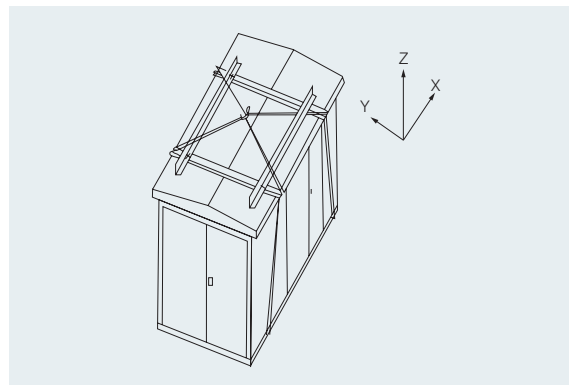

FIG. 3 Product lifting diagram
- The product should be lifted at the bottom of the special spreader, as shown in Figure 3.